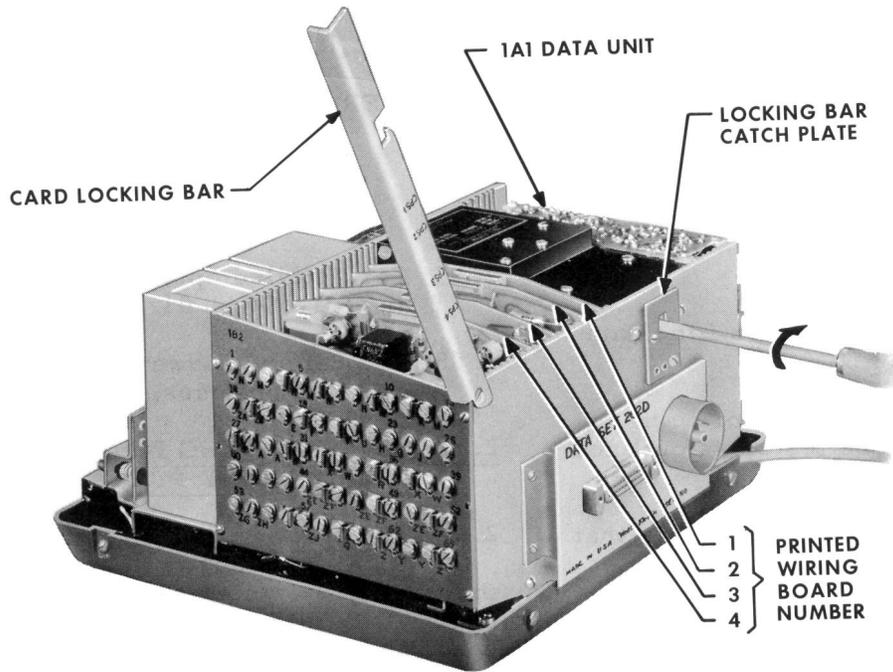

Fig. 1 - Printed Wiring Board Changeout
- (1) Remove cover of data set (see Section 592-016-100).
- (2) Insert screwdriver into locking bar catch plate (Fig. 1).
- (3) Turn screwdriver clockwise to release card locking bar (Fig. 1).
- (4) Raise card locking bar to extreme open position.
- (5) Grasp the printed board bracket near the top of board and carefully extract by pulling straight up.
- (6) Fit new assembly into positioning grooves and lower assembly until it seats in the connector socket.
- (4) Raise card locking bar to extreme open position (Fig. 1).